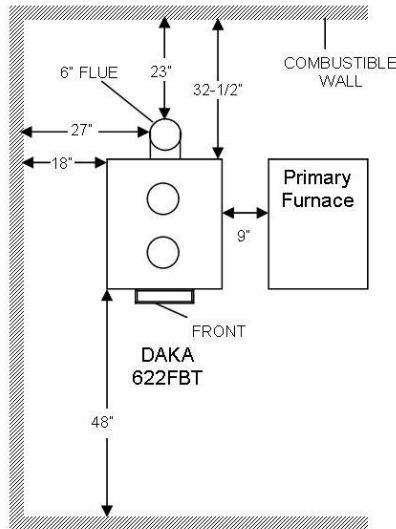

**FIG. 3 – Clearances from Horizontal Warm Air Ducts**
**NOTE: After attaching warm and cold air supply and return pipes to primary furnace, check entire system to insure that static pressure remains unaffected. Verify horizontal duct clearances (see FIG. 3).**